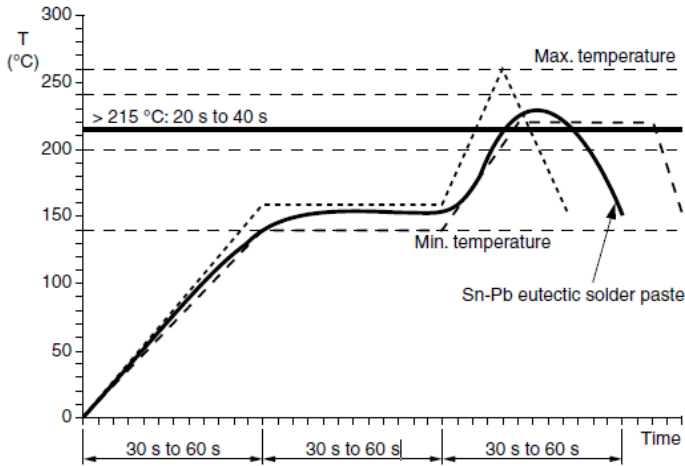

Figure 8 Soldering IR Reflow with SnPb Solder
1. Mounting of antennas on a printed circuit board should be done by reflow soldering using the profiles shown (Figures 8, 9, and 10).